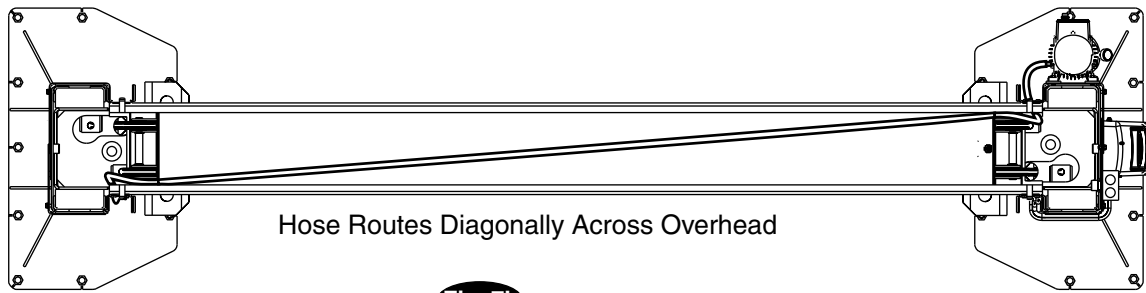
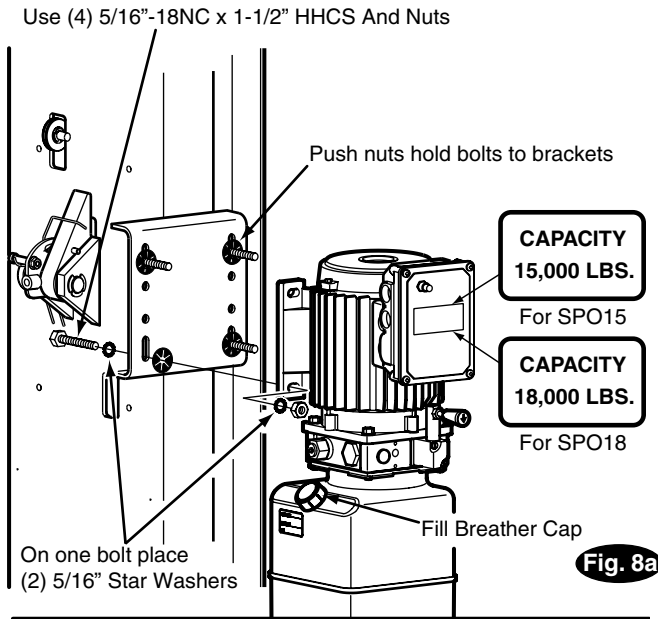
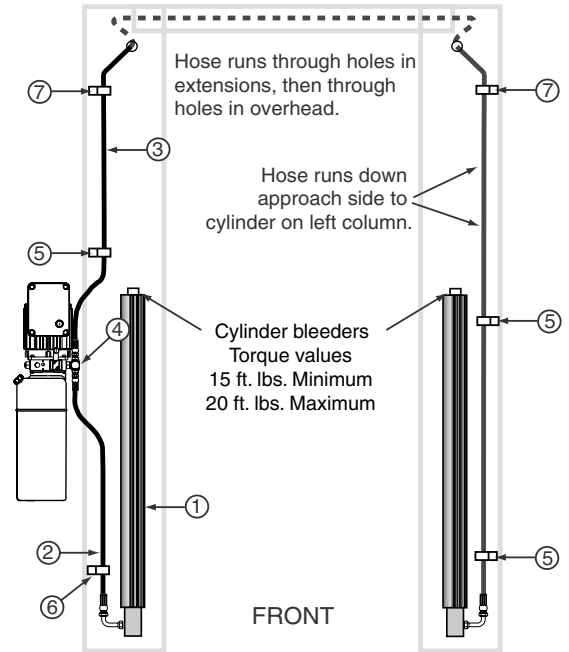
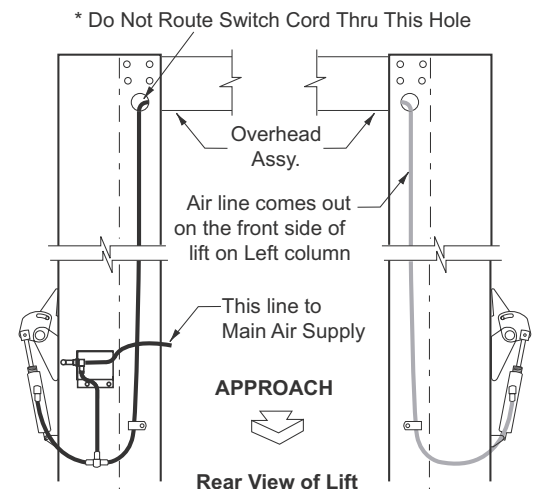

Fig. 7b
Fig. 8a
Fig. 9
Fig. 14
8. **Power Unit:** First install (1) star washer onto one of the (4) 5/16"-18NC x 1-1/2" HHCS. *This is very important for grounding.* Put the (4) 5/16"-18NC x 1-1/2" HHCS thru holes in power unit bracket using Push-Nuts to hold in place, Fig. 8a. Mount unit with motor up to column bracket and install (4) 5/16" star washers and 5/16" Nuts. Install and hand tighten Branch Tee to pump until O-ring is seated. Continue to tighten the locknut to 10-15 ft-lbs., or until the nut and washer bottom out against the pump manifold. **NOTE:** You may still be able to rotate the Branch Tee. This is acceptable unless there is seepage at the O-ring. If so, slightly tighten the locknut.
NOTE: Route Power Unit hose inside columns using slots provided at column base, Fig. 9. Route Overhead Hose in column channel on outside of column, Fig. 9, Fig. 14. Overhead hose goes through holes beside sheaves in the overhead weldment, Fig. 7b, Fig. 9.
- K) Install air line from union tee to left column air cylinder. Fig. 14.
14. Oil Filling & Bleeding: Use Dexron III ATF, or Hydraulic Fluid that meets ISO 32 specifications. Remove fill-breather cap, Fig. 8a. Pour in (8) quarts of fluid. Start unit, raise lift about 2 ft. Open cylinder bleeders approx. 2 turns, Fig. 9.